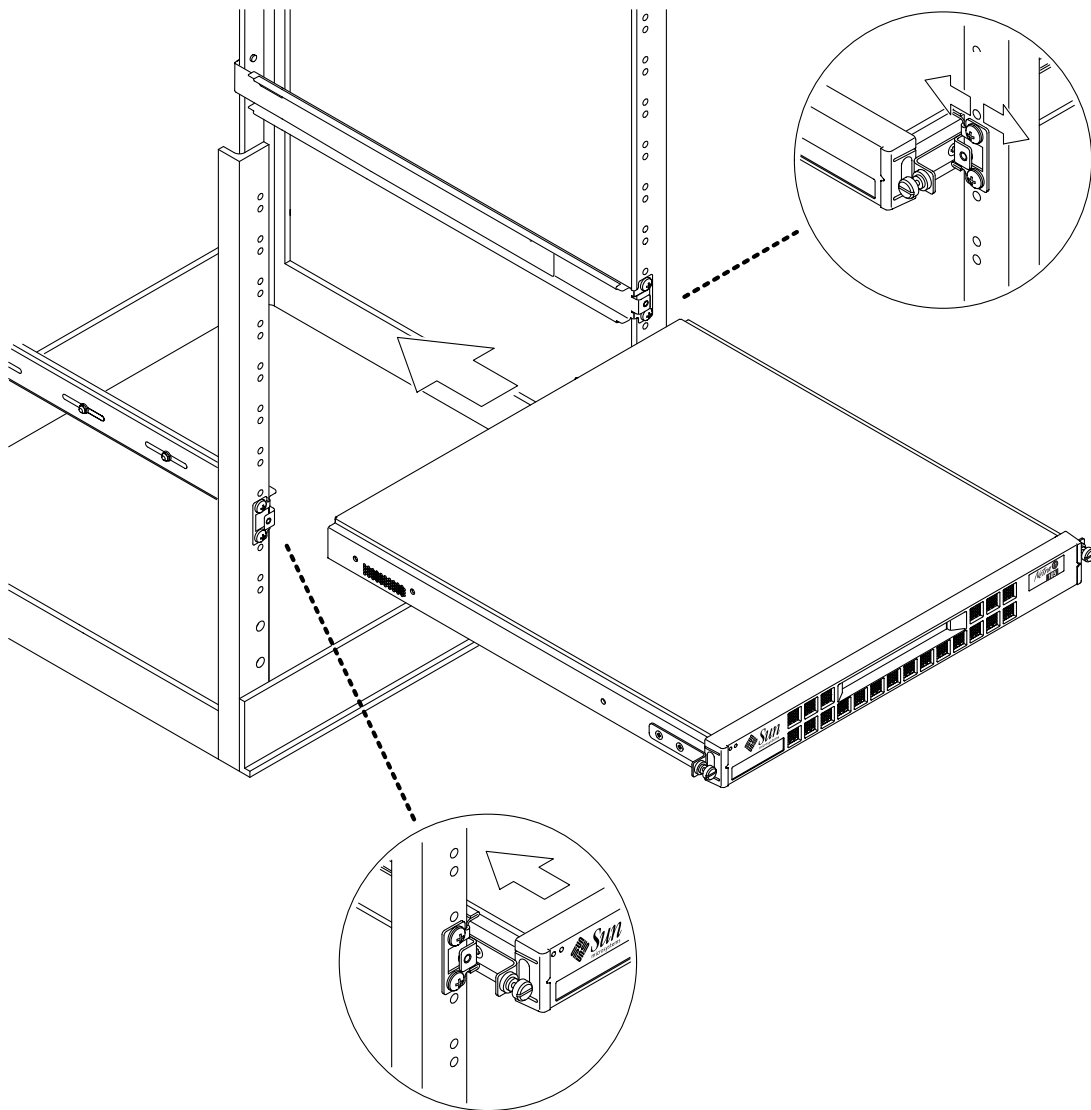

FIGURE 5-10 Fitting the Netra t1 into a 19-inch Rack
- 6. Slide the Netra t1 system (see FIGURE 5-10).**
- 7. Check the alignment of the thumbscrews either side of the Netra t1 system (see FIGURE 5-10).**
- 8. Fasten the slide mount fixing screws (see FIGURE 5-10).**
- 9. Fasten the thumbscrews at the front of the Netra t1 until they are finger-tight (see FIGURE 5-10).**